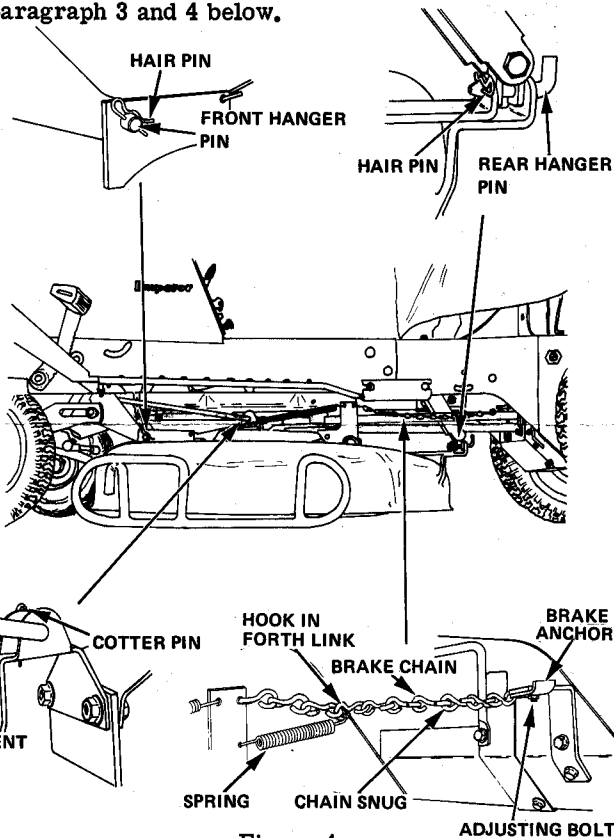

Figure 4
c. Position mower under tractor using skid to hold pan up to attach linkages as follows: See fig. 4.
c. Loosen adjustment bolt and adjust brake chain anchor until chain is snug without extending spring. See Figure 4.